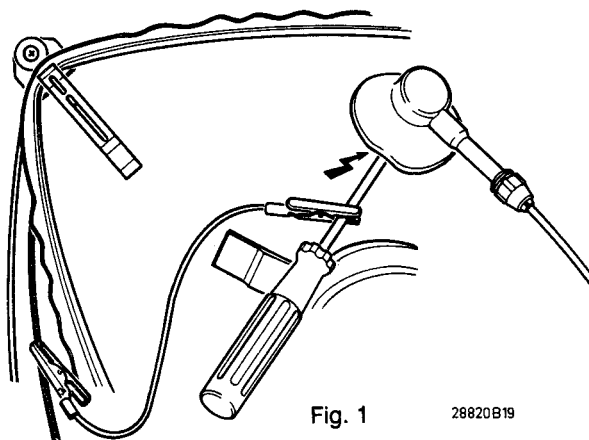

Fig. 1
3. To prevent ICs and transistors from being damaged, high-voltage flash-overs should be avoided. For checking the high-voltage, a suitable meter should be used. The picture tube should be discharged only as indicated in Fig. 1.
- b. After mounting a minipole onto the neck of the picture tube (see Fig. 1) the vertical red and blue lines in the left and right part of the picture can be made to coincide by turning knob "B".
Connect this signal generator as shown in Figure 1.